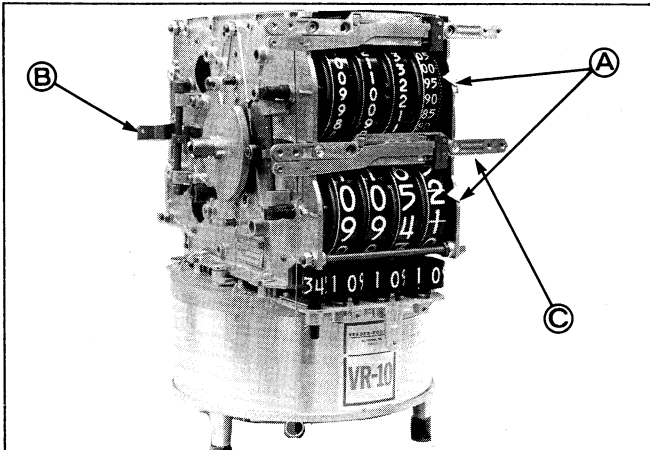
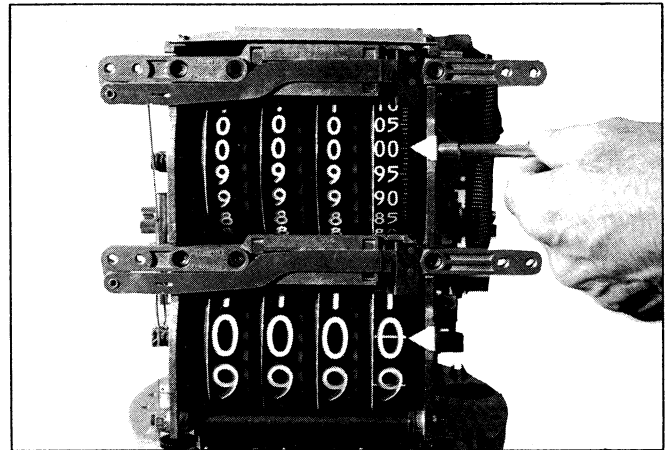
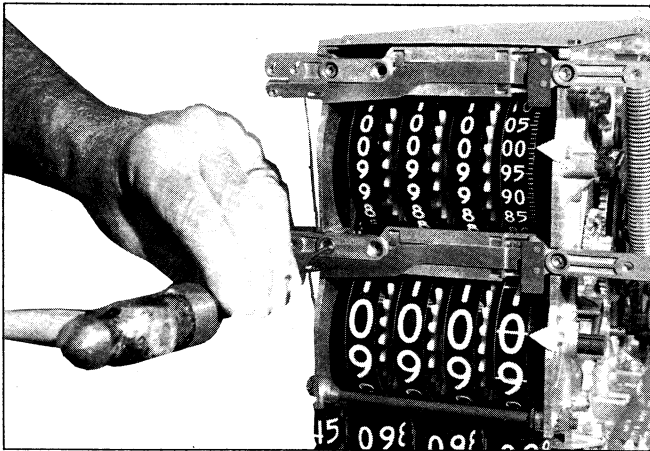
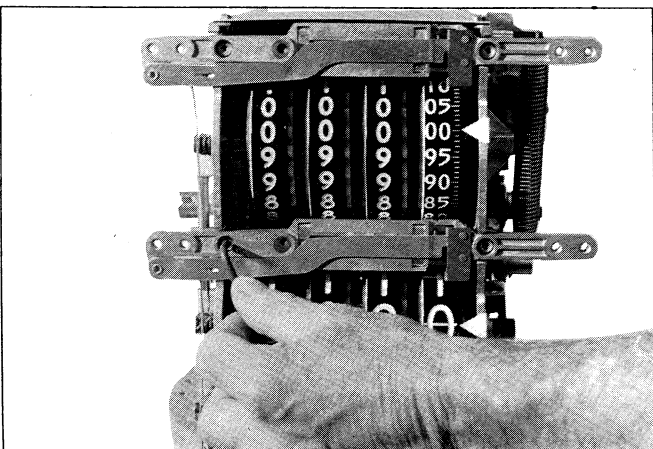

Figure 11. View of computer showing pointers (A), rear dial bracket (B), and volume totalizer (C).
Figure 14. Removal of pointer.
Figure 12. Removal of totalizer seal caps.
Figure 13. Removal of totalizer screws.
- a. For rear wheel removal, remove dial bracket (B), Figure 11. If front wheels are to be removed, detach wire totalizer operating link if totalizers are equipped with shutters and remove only the **volume** totalizer (C), Figure 11 and Figure 13. The totalizer is held in place by two Torx head screws (earlier models used hexagon or slotted head screws) covered by metal seal caps. Seal caps may be removed by piercing in the center with a sharp punch and prying out, Figure 12.
- b. Remove pointer (A) adjacent to wheel bank being removed, Figure 11 and Figure 14.